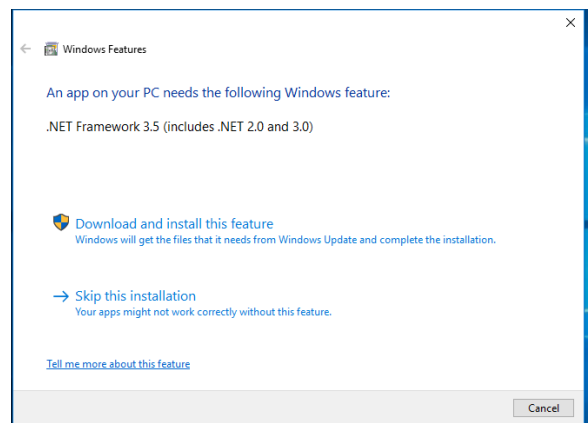

Figure 14. Windows 8/10 .NET Framework 3.5 Installation
- When the **Eval+ Dependencies** installer reaches the **.NET Framework 3.5**, the window shown in Figure 14 appears.